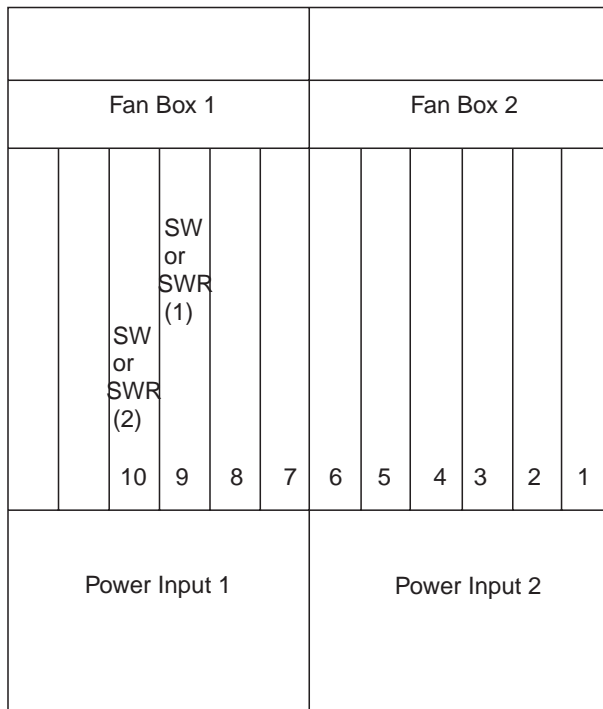

Figure 6-18. 2220 Rear View
1. Locate the switch or the switch redrive module that you have to exchange, using Figure 6-18 and note carefully its slot position.
<p>1</p> <ul style="list-style-type: none">• Locate the switch or switch redrive module using Figure 6-18 on page 6-67• If you have a rack expansion (2220 Model 501 connected):<ul style="list-style-type: none">– Continue with Step 2.– Otherwise go to Step 3.